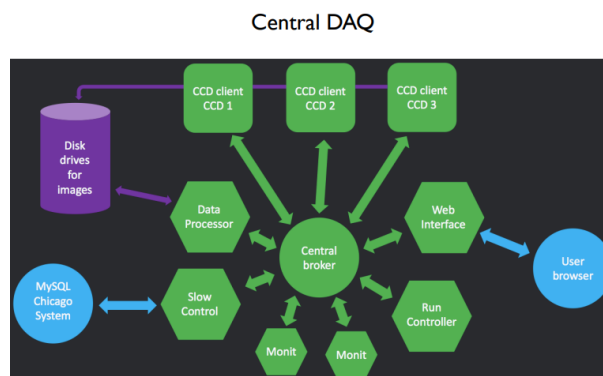

Figure 2: CDAQ sketch
**CDAQ** The CDAQ can be viewed as a central broker that centralised the requests from the users, distribute them to clients in our case mostly CCD system (LDAQ) and conversely collects information from the client and serves them back to the users or other services (see the sketch on Fig. 2). The CDAQ receives commands from the user addressed to a specific client and puts them in a queue to be executed. There are two types of queue a simple one and a repeat queue. The simple queue has precedence. The CDAQ waits for the command completion before executing a new one. One can group clients into 'pool' to address the same command to multiple clients. In practice this is how we operate several CCDs.